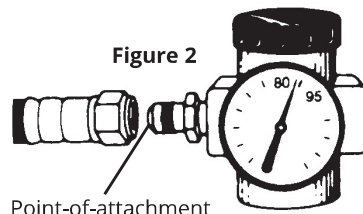

Figure 2
4. Adjust the air pressure at the point-of-attachment (Figure 2) to within the approved pressure range. See the Respirator Supplied Air Pressure table in the respirator user manual.